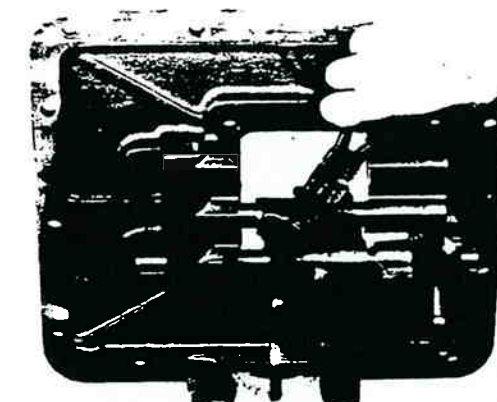

Figure 13-172. Installing Yoke Lockscrew.
6. Install yoke lock screw, tighten and wire securely (figure 13-172).